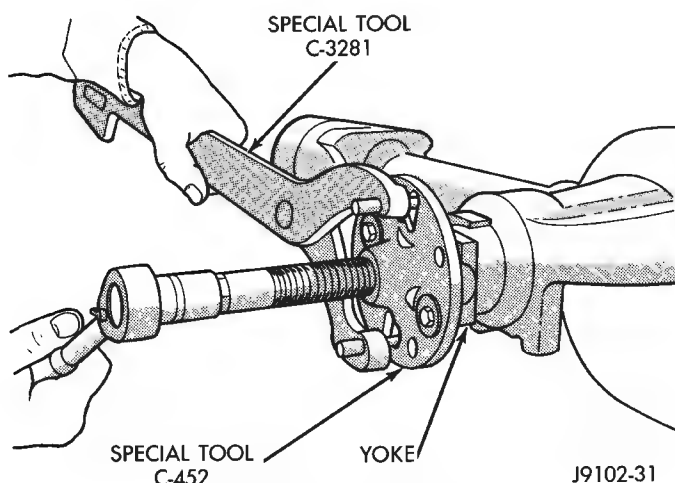

Fig. 32 Pinion Yoke Removal
(1) Remove the pinion yoke nut and washer. Use Remover C-452 and Wrench C-3281 to remove the pinion yoke (Fig. 32).
(2) Remove the pinion gear seal with a slide hammer or pry out with bar.